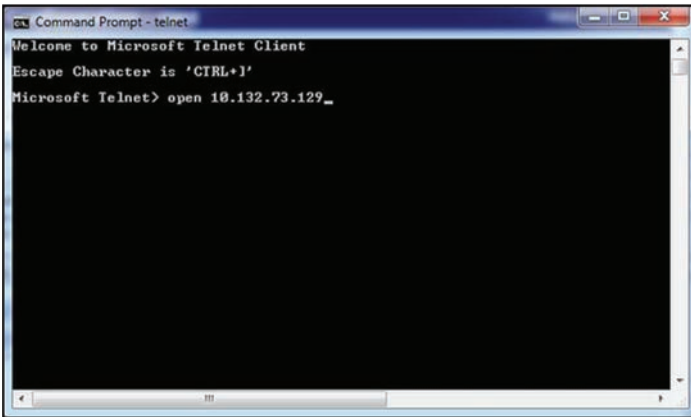

Figure 75: Telnet OPEN command
- To connect to the module, use the OPEN command with the IP address of the module (see *Figure 75* below).